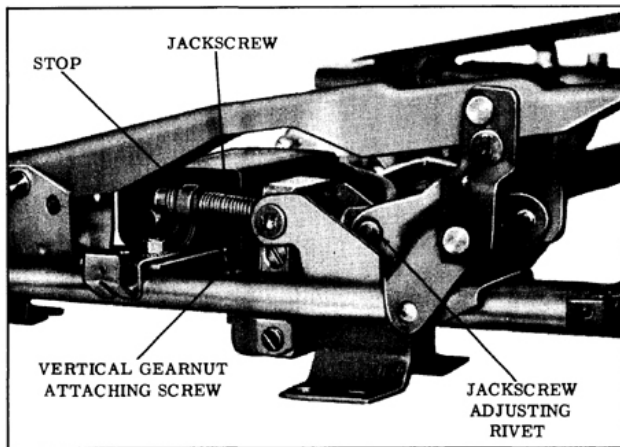

Fig. 16-392 Outboard Bucket Seat Adjuster
3. Using a clutch-type screwdriver or other suitable tool, remove shoulder screws securing linkage to vertical gearnut. (Fig. 16-392)
4. Remove jackscrew down stop from jackscrew. (Fig. 16-392)
3. As a bench operation, remove jackscrew-to-adjuster linkage attaching rivet and remove jackscrew from adjuster assembly. (Fig. 16-392)